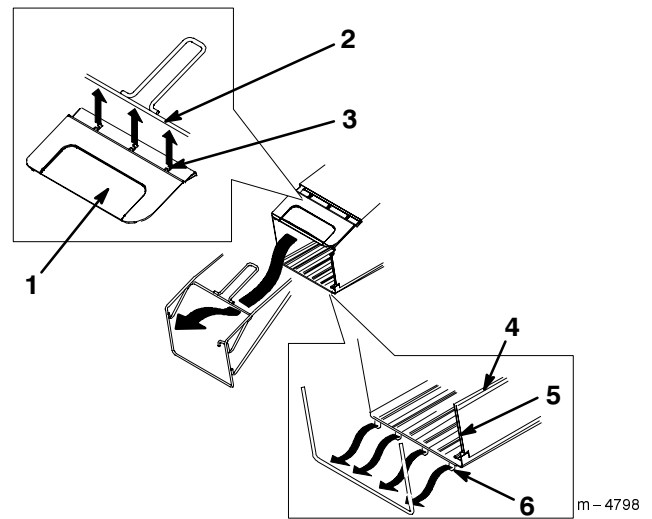

Figure 5
3. Snap the top frame bar into the three snap fittings on the bag cover as shown in Figure 5.
4. Insert the two side channels and two top channels of the grass bag onto the grass bag frame as shown in Figure 5.
5. Snap the bottom frame bar into the four snap fittings on the bag base as shown in Figure 5.